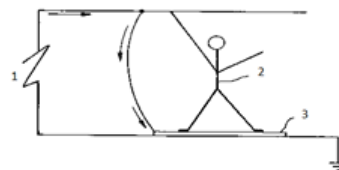

Figure 2
- In Figure 2 below, however, the worker (2) is standing on the bonding mat (3) installed according to the approved work methods, which is connected in the circuit with the power source (1). The current flow is therefore mostly through the ground lead and mat, notwithstanding the fact that the body of the worker is at full potential